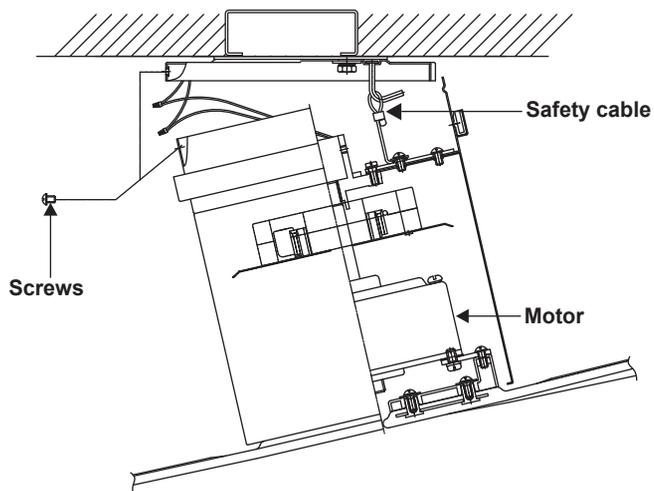

Figure 11
Step 1. Move fan motor into position over the four mounting holes and secure with the four screws provided. The safety support is provided to prevent the fan from falling. Secure the safety cable securely onto the hook. (Fig. 11)